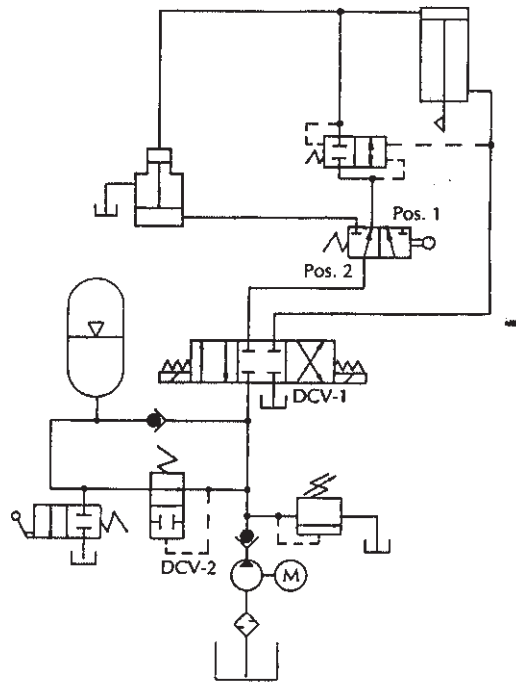

Fig. 2
- b) Analyze the circuit shown in fig 2. [6]